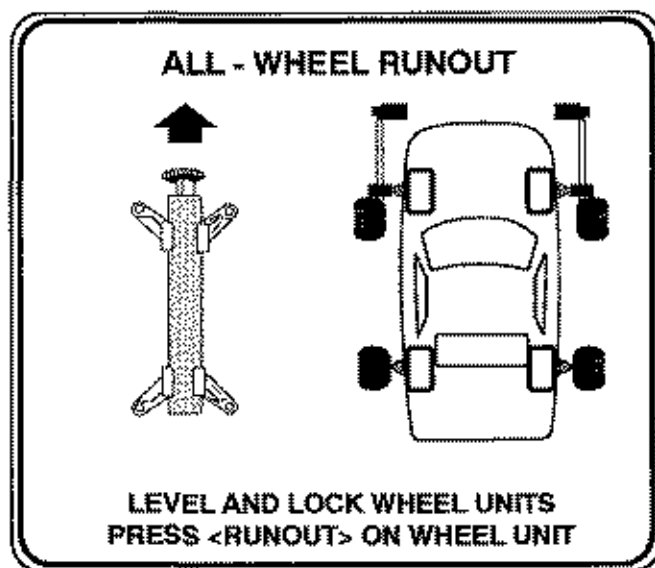

Figure 2-42
- C. Wait while the readings are taken. After the tone sounds, position all four wheels so that all four wheel clamp lock knobs are up. The screen shown in Figure 2-42 will appear. Level and lock all four wheel units and then press RUNOUT again.